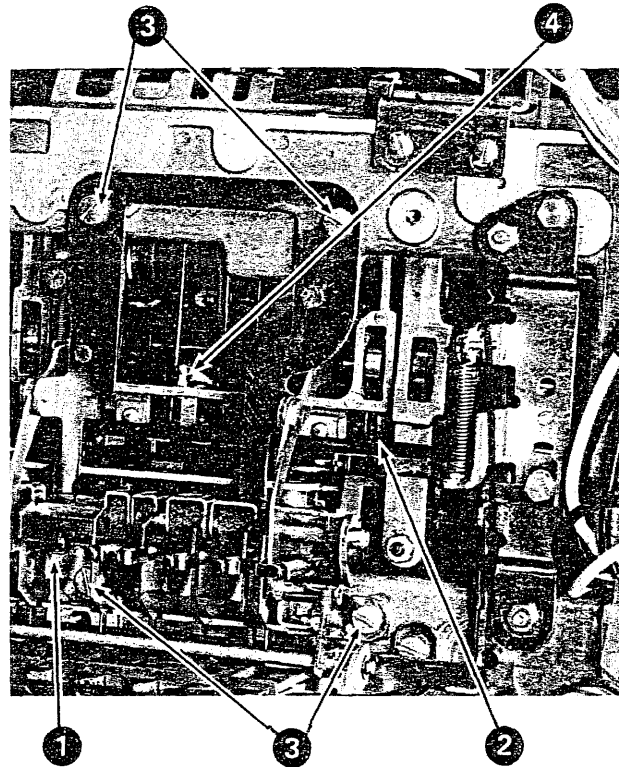

Figure 4-30. Differential-Plate Removal (Steps 6-10)
6. Unhook the check-latch-link spring (No. 1, Figure 4-30).
7. Remove the rotate-arm link (No. 2, Figure 4-30).
8. Scribe the position of the pusher-arm plate to the power frame and remove the four mounting screws (No. 3, Figure 4-30).